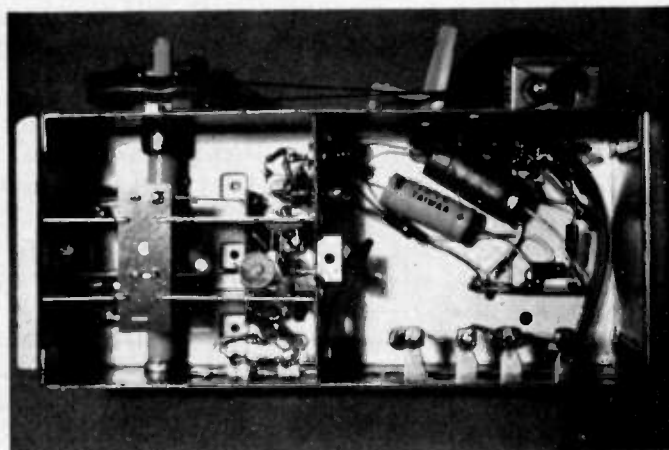

Fig. 4.
4. From underside of the chassis locate L1 (see Fig. 4). It is a semicircular strip of metal located in the center of three sections along the main tuning control axis. Locate the point where L1 connects to L2. (L2 is two short parallel wires running between the center and rear sections.) Solder a 2-8 pF subminiature variable capacitor (e.g., Erie ceramic) in electrical parallel with L1 — one lead of the cap connected to the L1-L2 junction point and the other